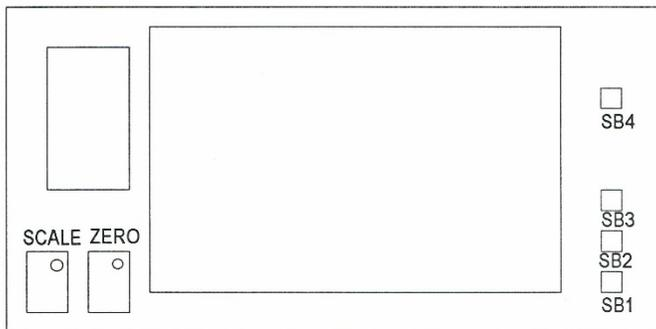

Figure 2. Component Location
2. Set switches S1 and S2, the coarse scale adjustments, as shown below. The location of these switches is shown in **Figure 2**.
6. Adjust the ZERO potentiometer (**Figure 2**) until the display equals the desired reading.